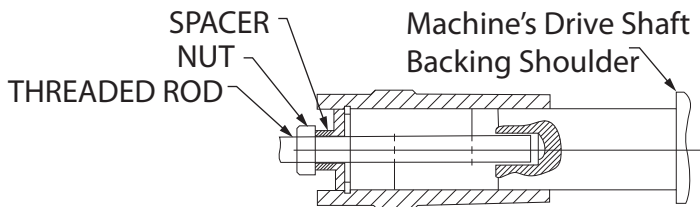
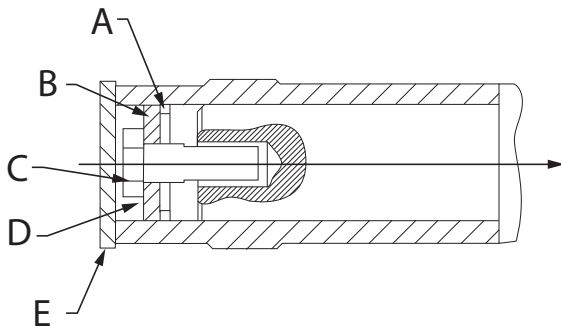

Figure 6 - Threaded Rod and Nut Assembly
Figure 7 - Finished Assembly
All shaft mounted gearboxes are furnished with A) Retaining Ring B) Keeper plate C) Retaining Bolt D) Spring Washer and E) Dust Cap, as shown in the finished assembly, Figure 7. The gearbox is pulled onto the shaft by means of a threaded rod and nut assembly as shown in Figure 6 below. The threaded rod and spacer are not supplied. The threaded rod (M) is specified in Table 5 or 6. After the gearbox has been pulled completely onto the machine shaft firmly against the machine shaft's backing shoulder, it must be locked in place with the retaining bolt tightened to the tightening torque shown in Table 4.